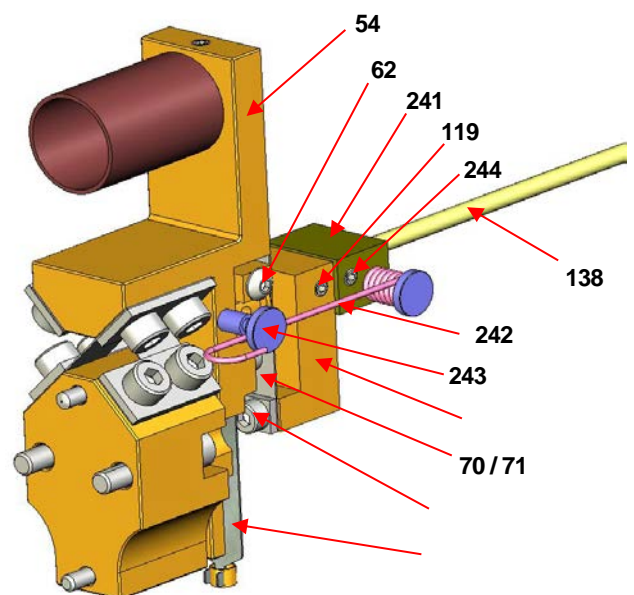

Figure 20
- e. Position the sub-assembly vertically on the rod so that the distance between the coupling flexure (71) and the torque tube flange is 59.5 mm \pm 0.5 (see figure 20). Firmly tighten this sub-assembly to the rod, using the two lateral screws (119).
- f. Put the bias at 1 mm from the coupling S/A, align the bias S/A with the coupling S/A and tighten it on the rod with the two lateral screws (244).